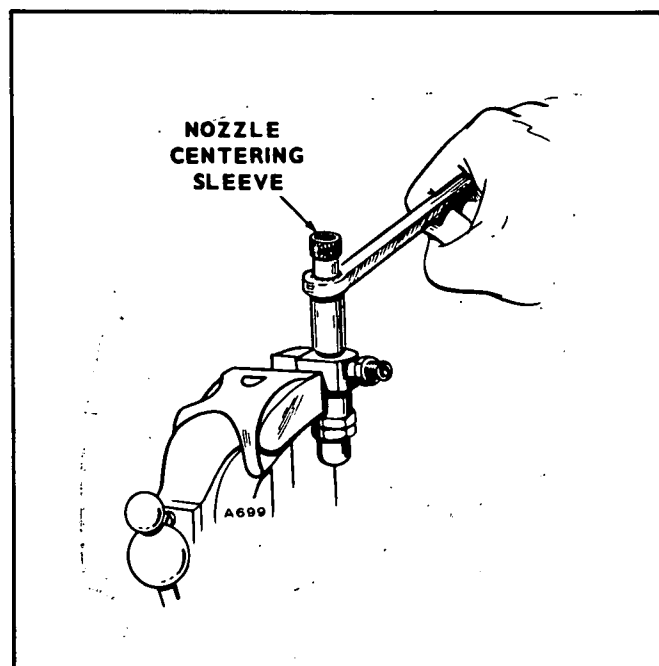

FIGURE 22. TIGHTENING NOZZLE CAP NUT
5. Place the centering sleeve over the nozzle (Figure 22) for initial tightening. Then remove the centering sleeve to prevent it from binding between nozzle and cap nut and tighten the nozzle cap nut to specified torque.